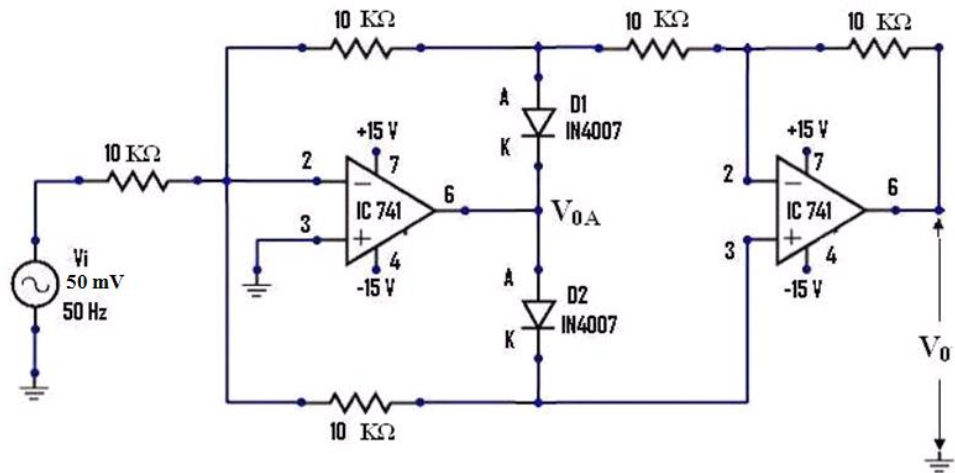

Fig 3.7 Precision Full-wave Rectifier
- 1) Connect the circuit as per Fig. 3.7